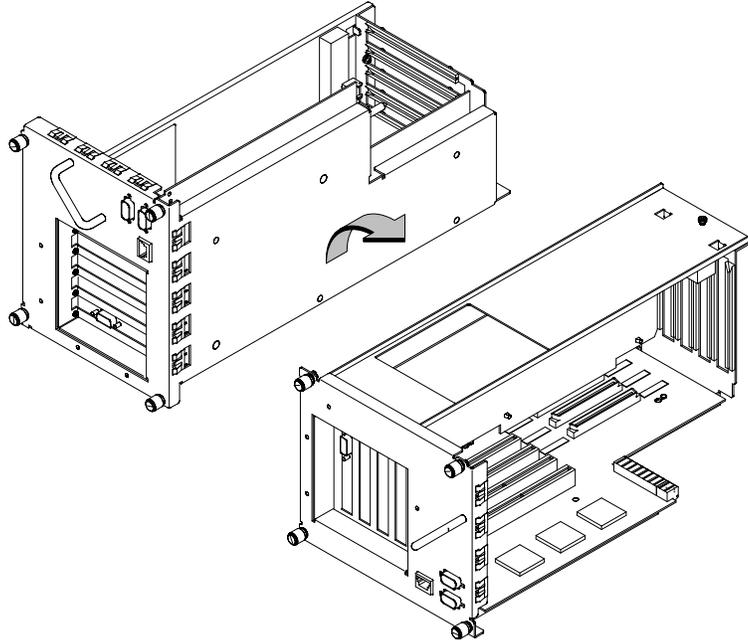

Figure A-33. Rotating the EISA Assembly for Installation
2. Rotate the unit 90 degrees clockwise and place on a flat surface, as shown in Figure A-33.